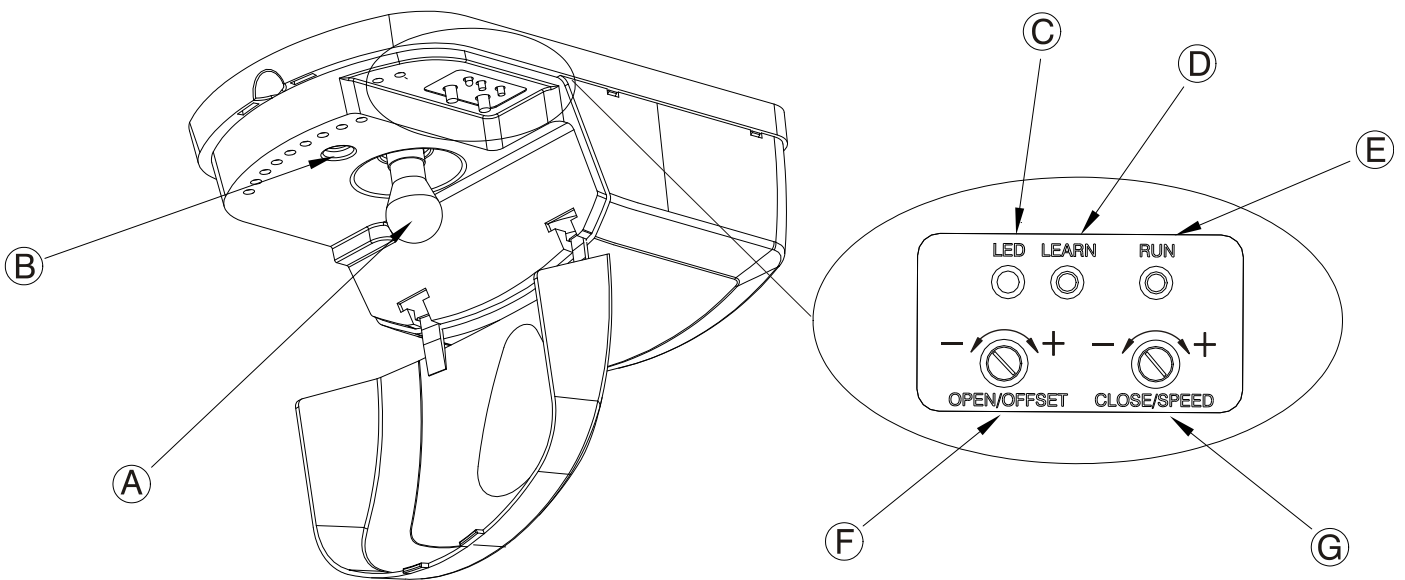

Fig. 18
- If the AGDO stops but does not reverse then turn the (red) Close / Speed Adjustment Pin 5 degrees in an anti-clockwise direction. (Fig.18-F)
- Will glow green when battery charger is charging (Fig.18-C)
- In the event of prolonged power outage the AGDO will automatically shut down (when battery voltage drops below 22 volts) in order to conserve remaining voltage - LED Indicator (Fig.18-C) will extinguish and the AGDO will cease to function.
- iii. remove the lamp bulb (Fig.18-A) by first pushing in and then turning anti clockwise (same as removing household light bulb)
- iv. remove the Control Box Cover Lock Screw point (Fig.18-B) Note: the Control Box Cover can be removed once the head of the screw is protruding by approx 5mm.
- Hinge open the Courtesy Lamp Cover to expose the bulb (Fig.18-A)
- i. hinge open the Courtesy Lamp Cover to expose the “Learn” Button (Fig.18)
- iii. momentarily press the “Learn” Button (Fig.18–D) – LED Indicator will glow solid (Fig.18–C)
- ii. momentarily press the “Learn” Button (Fig.18–D) – LED Indicator (Fig.18–C) will glow solid
- The “Learn” Button (Fig.18 - D) is located within the Lamp Cover adjacent to the “Learn LED” and serves to initiate the functions as described in the following table;
- The LED Indicator (Fig.18-C) is located under the Courtesy Lamp Cover and serves to indicate the functions as described in the following tables;
- The black “Run” Button (Fig.18-E) is located under the Lamp Cover and serves to initiate the functions as described in the following table;